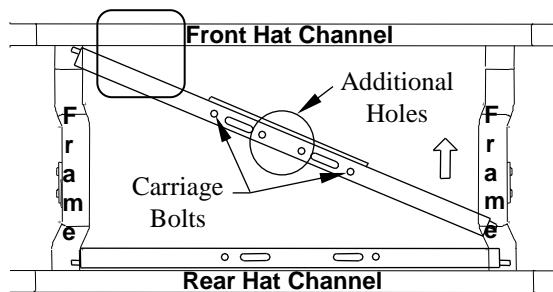

Figure 3
3. Place 5/8" GR8 carriage bolts from the 9460/9470 fastener kit into the square holes on the forward and rearward cross members from the top pointing towards the ground. The forward cross member has (2) additional holes (see Figure 3).